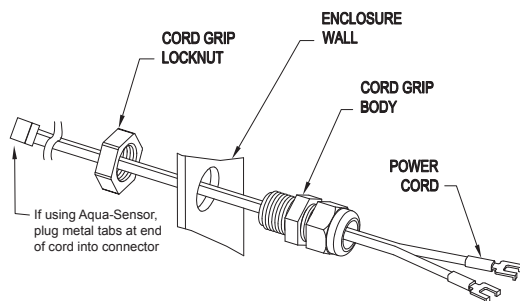

Figure 10
4. Next, run the spade terminals through a hole in the side of the controller FROM THE INSIDE. See figure 10.